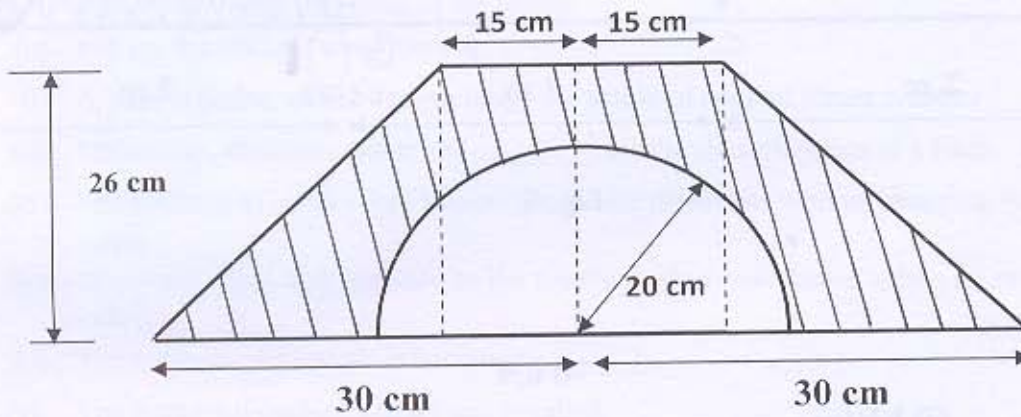

Fig. 2
- Q - 3 (a) Locate the position of the centroid of the plane shaded area depicted in Figure 2. [07]